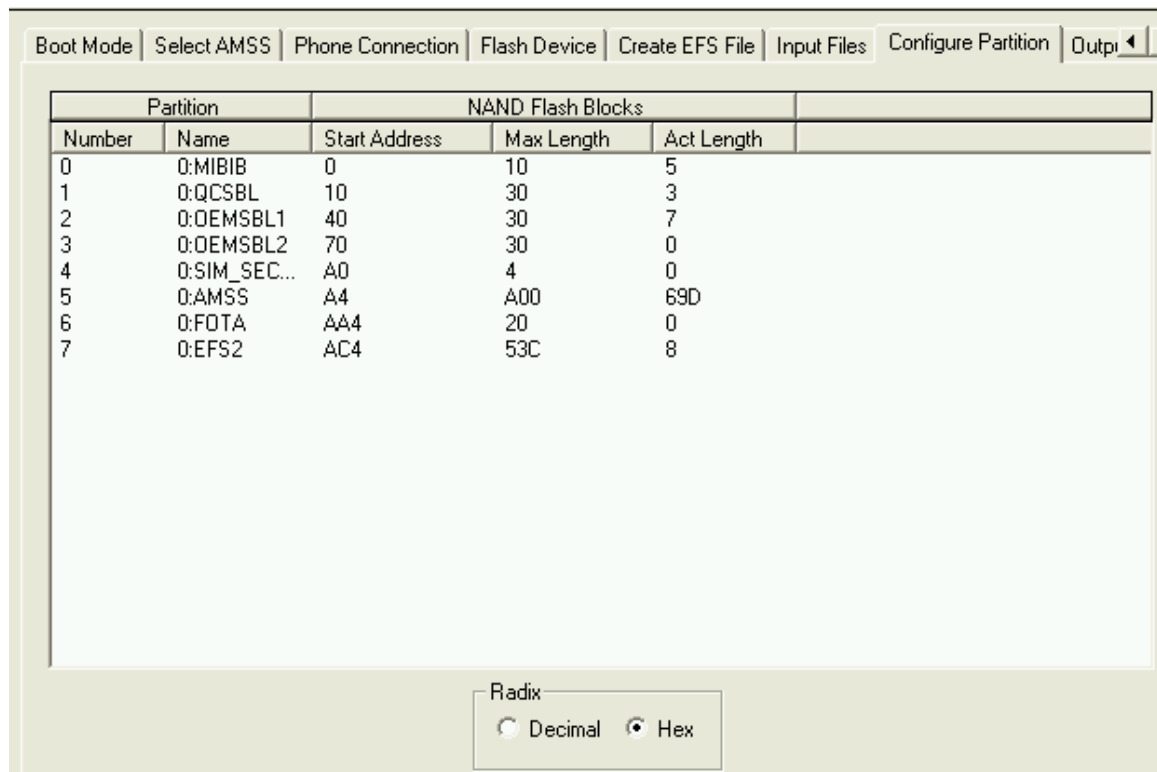

Figure 11-10 Partition configuration
13. Under the Configure Partition tab, use the radio button to select Hex Radix. The partition name, start address, maximum length, and actual length are shown (Figure 11-10).